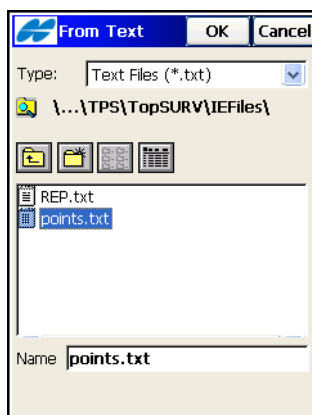

Figure 5-17. Import From Format
- **Next:** opens the **From Text** screen (Figure 5-17 on page 5-16).
The **From Text** screen browses directories from which to select the file to import data (Figure 5-17 on page 5-16).